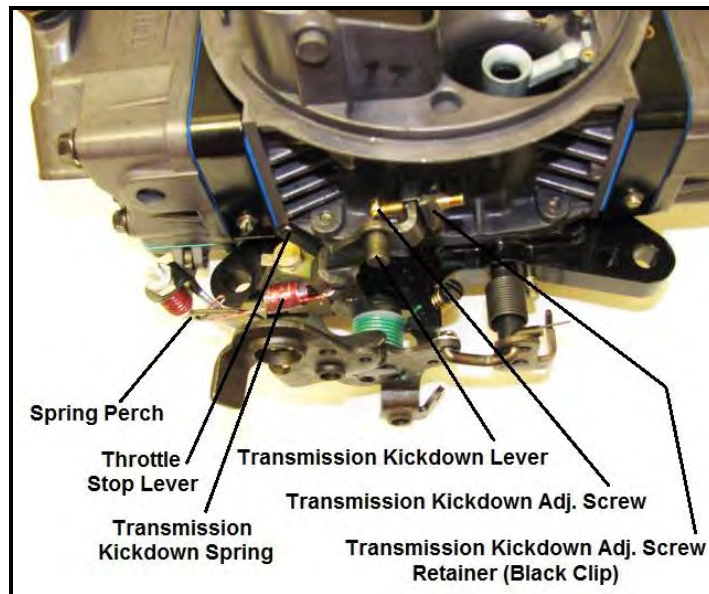

Figure 2—Ford applications
2. Insert the transmission kickdown screw with the black retaining clip on the transmission kickdown lever (**Figure 2**). This assembly must be installed according to the detailed drawing (**Figure 3**).
4. Install the transmission kickdown spring between the transmission kickdown lever and spring perch on the solenoid/dashpot bracket (Figure 2).